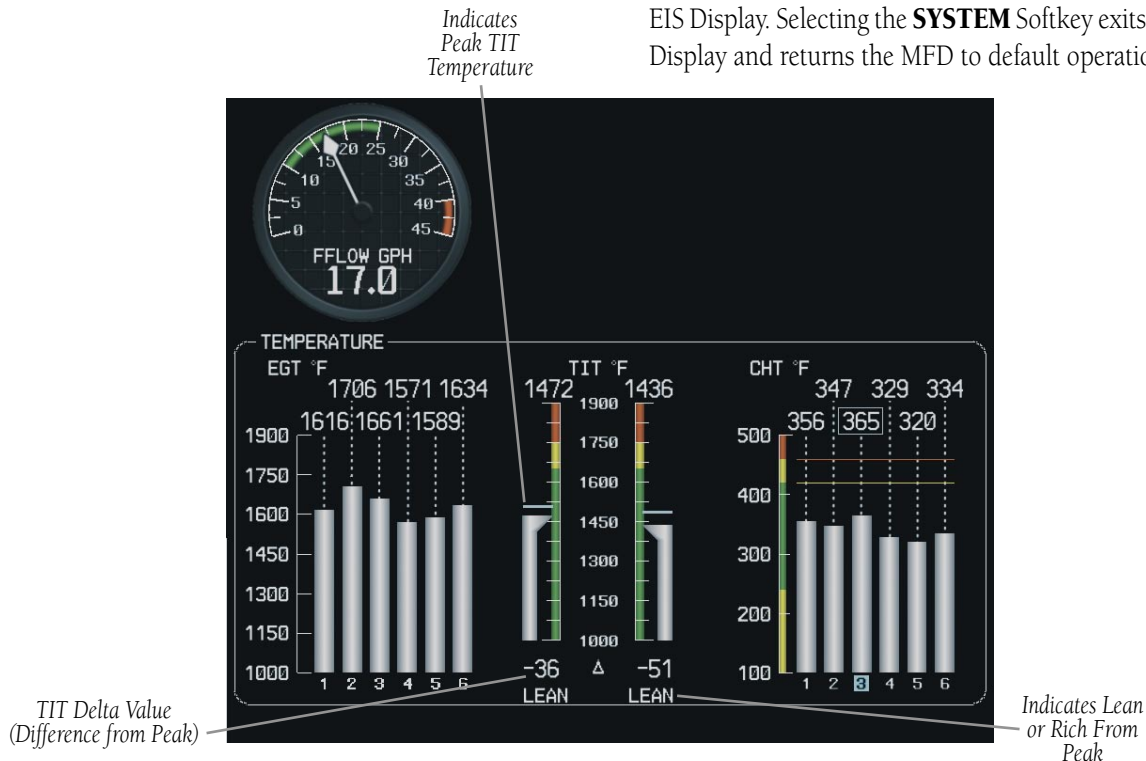

Figure 3-5 Engine Leaning Assist Display (Columbia 400)
- 3) Lean the mixture to obtain peak temperature on the TIT displays. See Figure 3-5. Refer to the Columbia Airplane Flight Manual (AFM) for more detailed procedures.